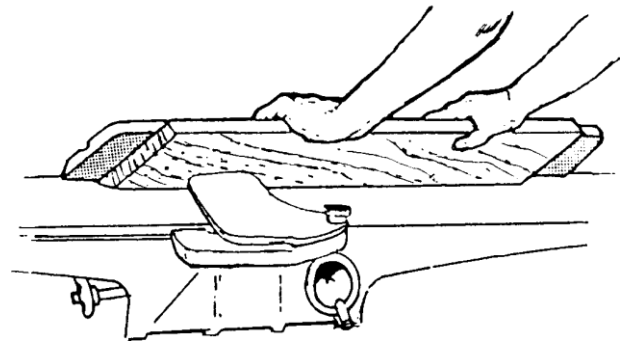

Fig. 26
**CAUTION:** Although fence may be tilted in or out for bevel cut, we recommends for safety reasons the fence be tilted in, if possible, making a cradled cut (Fig. 26).